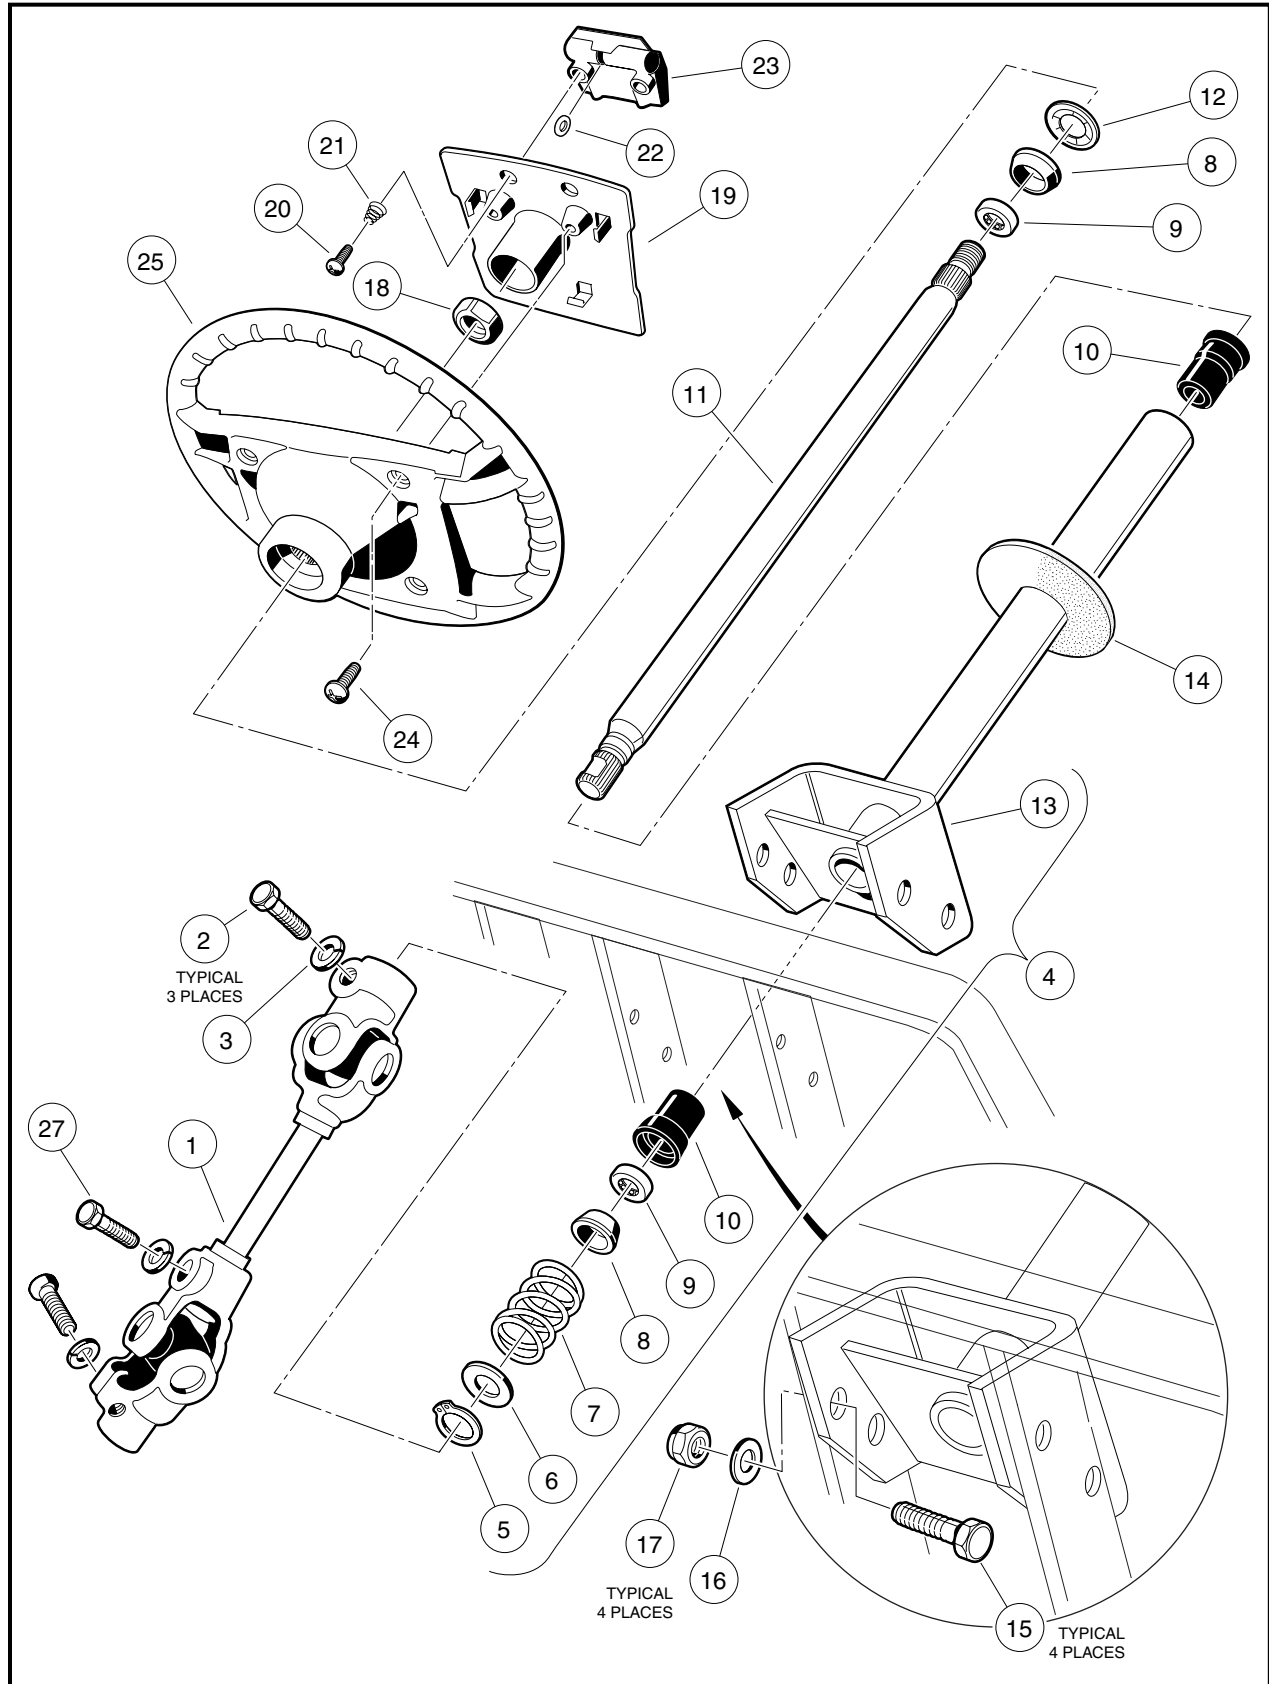

Figure 7-3 Steering Column
4. Remove the two mounting screws (24) and plate (19) (**Figure 7-3, Page 7-2**).
5. Match mark the steering wheel (25) and steering column shaft (11) for installment positioning.
6. Loosen the steering wheel nut (18) and back it off approximately 1/4-inch (6 mm). Do not remove the nut.
6. Remove the upper bolt (2) and lock washer (3) from the steering universal joint (1) (**Figure 7-3, Page 7-2**).
7. Remove the nuts (17), bolts (15) and washers (16) from the steering column mount (13) (**Figure 7-3, Page 7-2**).
8. Disconnect the steering universal joint (1) from the steering column shaft and remove the steering column from the vehicle (**Figure 7-3, Page 7-2**).
1. While supporting steering column (13) on a workbench, remove snap ring (5) from shaft (**Figure 7-3, Page 7-2**).
2. Remove the washer (6), spring (7), and wedge (8) (**Figure 7-3, Page 7-2**).
3. Turn the steering column over and slide the shaft out of the tube to expose the retaining ring (12). Use pliers to twist the retaining ring (12) until it breaks off, then remove the wedge (8).
4. Remove the shaft (11) from the bottom of the tube (13).
5. Use steering shaft (11) to push bearing seat (10) out from the opposite end of the steering tube (13).
6. Insert a flat blade screwdriver between the bottom of the outer race of the bearing (9) and the bottom lip of the bearing seat (10) and remove the bearing (9).
4. Insert the shaft (11) from the bottom of the steering tube (13) (**Figure 7-3, Page 7-2**).
1. Install boot (14) (if previously removed) (**Figure 7-3, Page 7-2**).
3. Position the steering column assembly in the vehicle while inserting the steering column shaft into the upper steering universal joint (1). The flat portion of the steering shaft spline (11) must be aligned with the bolt hole in the steering universal joint (1) before sliding the spline into place (**Figure 7-3, Page 7-2**).
5. Hold the steering column in place and attach it to the frame using bolts (15), washers (16) and lock nuts (17) (**Figure 7-3, Page 7-2**). Tighten the four bolts, in a crisscross pattern, to 23 ft-lb (31.2 N·m).
6. Tighten the bolt (2) on the upper steering universal joint (1) to 15 ft-lb (20 N·m).
7. Check the other bolts (27) on the lower steering universal joint assembly (1) to ensure that they are properly tightened to 15 ft-lb (20 N·m) (**Figure 7-3, Page 7-2**).
7. Remove the bolt (27) and lock washer (**Figure 7-3, Page 7-2**) from the universal joint, then remove the rack and pinion assembly and universal joint from the vehicle (**Figure 7-8, Page 7-6**).